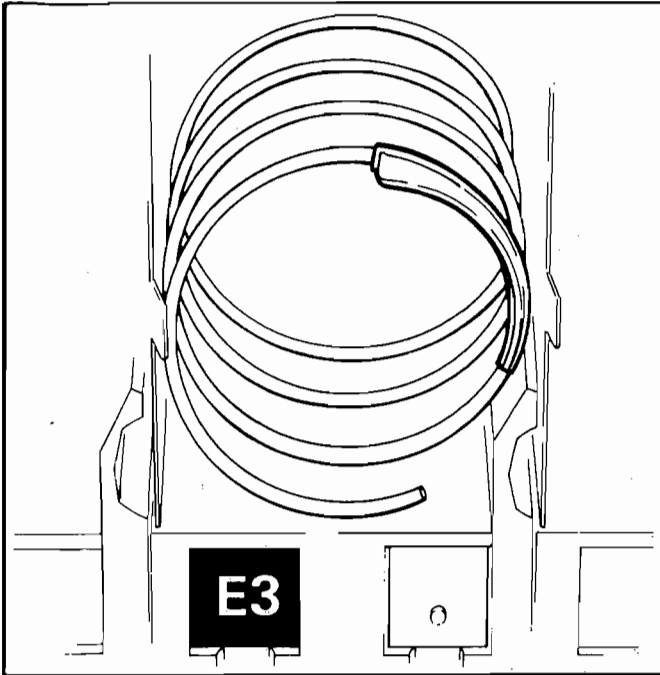

Figure 7. LOCATION OF PRODUCT PUSHER ON SPIRAL.
8. **PRODUCT PUSHER:** The machine contains enough pushers for you to install a pusher on each candy spiral. This plastic part is designed to push the top of the product forward while it is vending, helping it fall from the shelf. It can also be used with products that have the wrapper end flap on the outside of the package. In this case, the pusher prevents these products from hanging on the spiral by spreading the flap. The pusher is installed approximately 210 degrees from the front end of the spiral with the tab extending forward (see Figure 7).